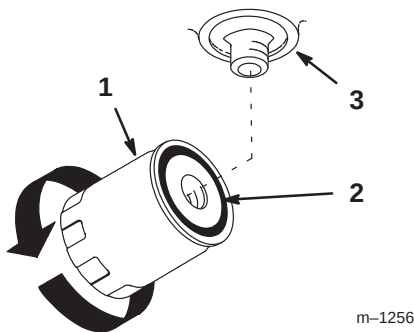

Figure 39
- Apply a thin coat hydro fluid to the rubber gasket on the replacement filter (Fig. 39).
7. When fluid overflows filter turn the oil filter clockwise until the rubber gasket contacts the filter adapter, then tighten the filter an additional 1/2 turn (Fig. 39).